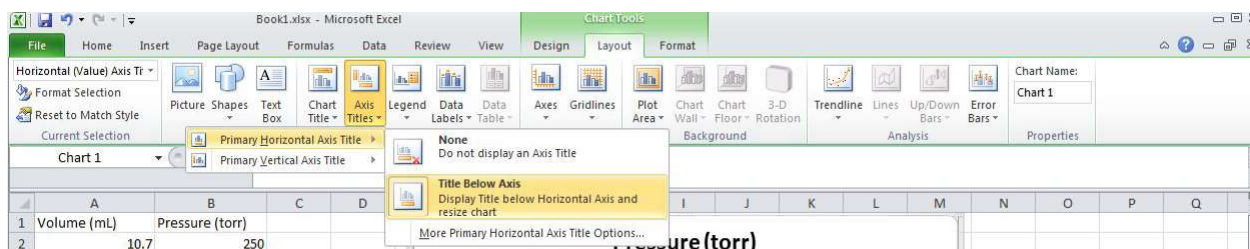

Figure 8.9: Scatter plot with new x and y axis marks. credit: author
5. Chart Tools: The current version of Excel uses a tabbed/ribbon menu system has placed many useful tools for formatting your graph in 3 locations as shown below in Figure 8.9 which shows the Layout tools and has the Axis Titles sub menu highlighted.